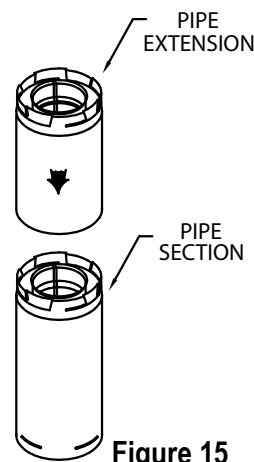

Figure 15
(1) If exact lengths or distances must be met between Elbow offsets or elsewhere, use the Pipe Extensions to adjust onto standard Pipe Sections **(Fig. 15)**.